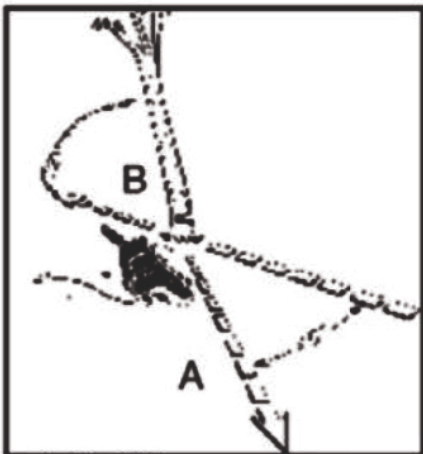

Fig.2A
**WARNING:** As the felling cut gets close to the hinge, the tree should begin to fall. When tree begins to fall, remove saw from cut, unplug, put chain saw down, and leave area along retreat path (Fig.2A).